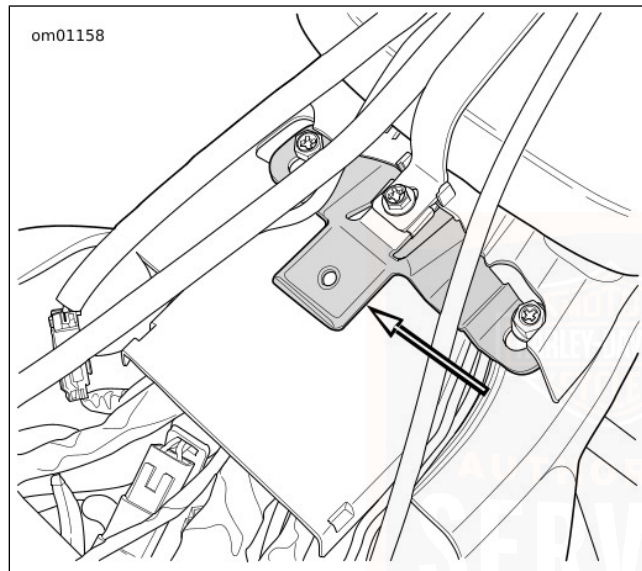

Figure 100. Seat Tongue
3. See Figure 100. While pushing seat forward, raise rear of seat until bracket clears top of body assembly. Push seat rearward slightly to free seat from tongue on rear fuel tank bracket.
4. See Figure 100. While pushing seat forward, raise rear of seat until bracket clears top of Tour-Pak. Push seat rearward slightly to free seat from tongue on rear fuel tank bracket.